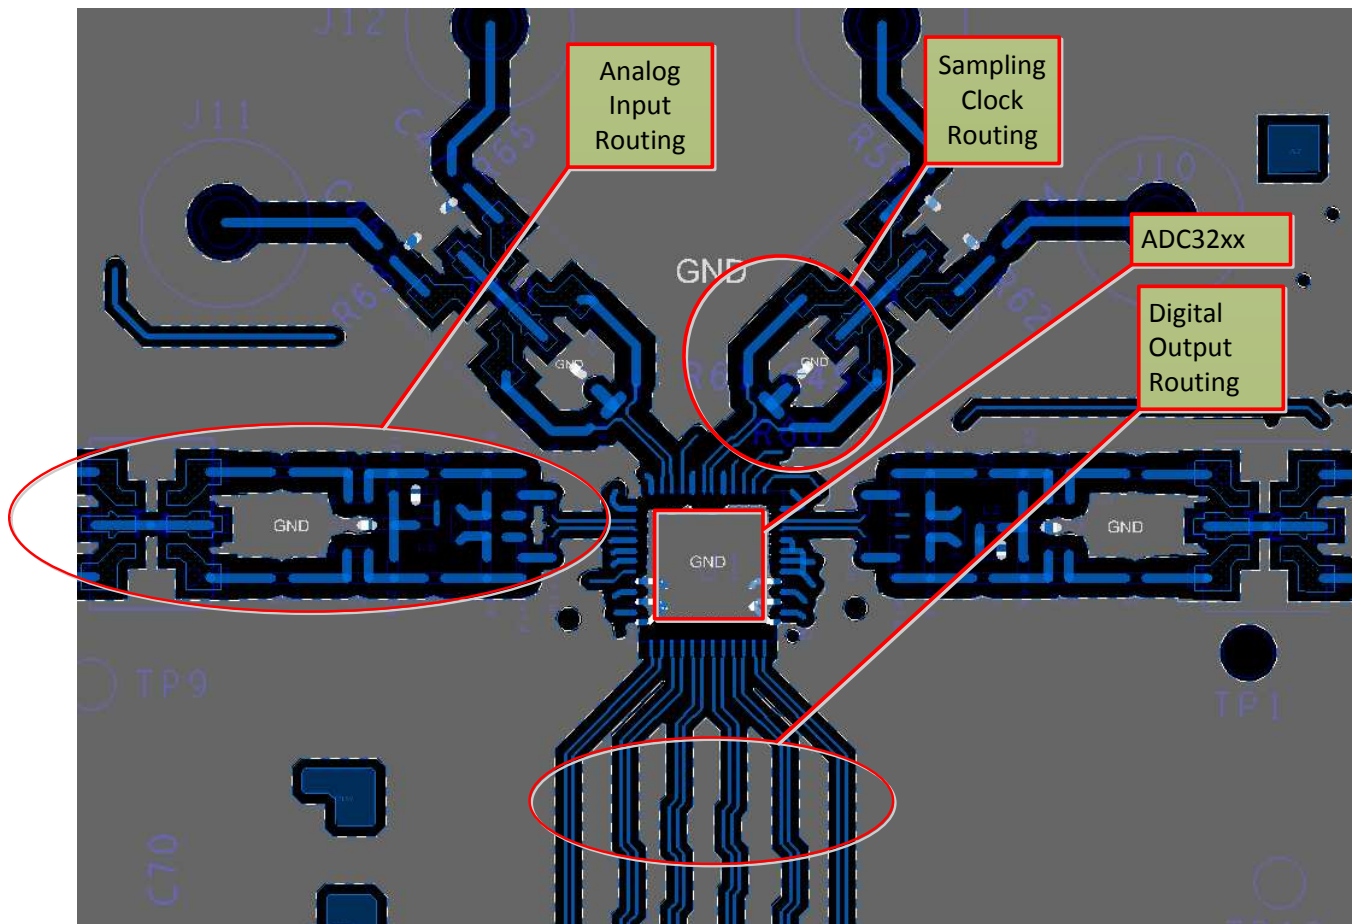

Figure 91. Typical Layout of the ADC3244E Board
The ADC3244E EVM layout can be used as a reference layout to obtain the best performance. A layout diagram of the EVM top layer is provided in Figure 91. Some important points to remember during laying out the board are:
1. Place the analog inputs on opposite sides of the device pin out to provide minimum crosstalk on the package level. To minimize crosstalk onboard, the analog inputs must exit the pin out in opposite directions, as shown in the reference layout of Figure 91 as much as possible.
2. In the device pin out, place the sampling clock on a side perpendicular to the analog inputs in order to minimize coupling between them. This configuration is also maintained on the reference layout of Figure 91 as much as possible.